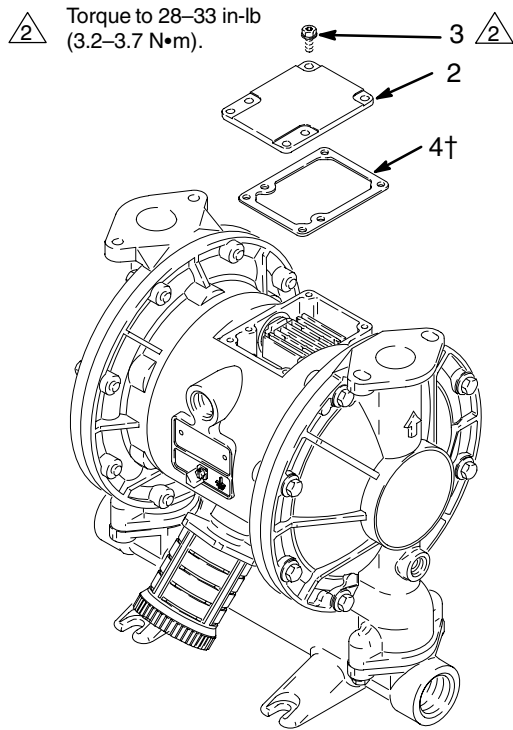

Fig. 8
2. With a #2 phillips screwdriver or 7 mm (9/32") socket wrench, remove the six screws (3), air valve cover (2), and gasket (4). See Fig. 8.
10. Align the valve gasket (4†) and cover (2) with the six holes in the center housing (1). Secure with six screws (3), using a #2 phillips screwdriver or 7 mm (9/32") socket wrench. Torque to 28–33 in-lb (3.2–3.7 N•m). See Fig. 8.